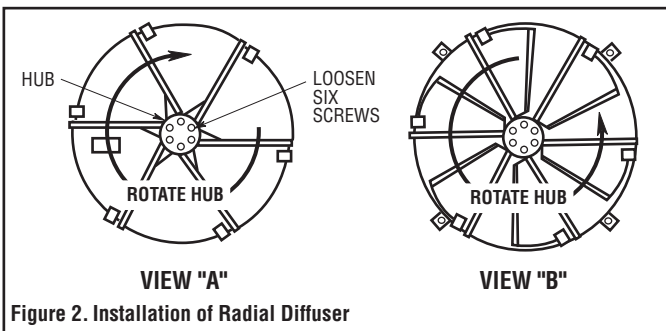

Figure 2. Installation of Radial Diffuser
2. Loosen all six screws in radial diffuser hub until blades move freely (See Figure 2, View A).
4. Insert blade rods into matching holes in vertical section while rotating the radial diffuser hub counter-clockwise. (See Figure 2, View B).
3. For medium (-M) diffuser, slide anemostat into vertical section and secure with three No. 10-32 x 3/4" (19mm) bolts, nuts and spacers. (See Figure 2, View B).